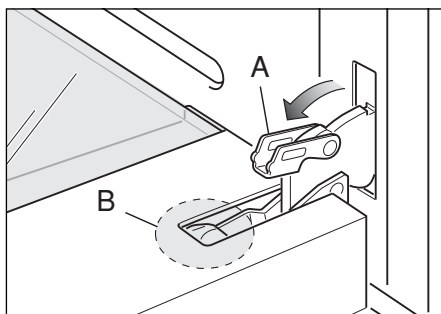
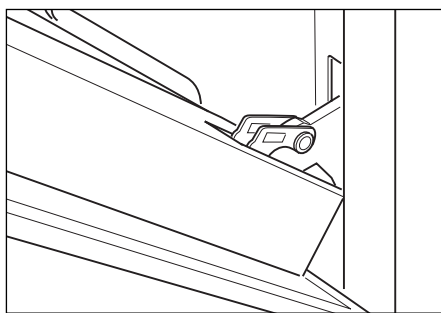

Fig. 21b
Fig. 21c
- Fully open the lever "A" on the left and right hinges. (Fig 21b).
- Gently close the door (Fig. 21c) until the left and right hinges are hooked to part "B" of the door (Fig. 21b).